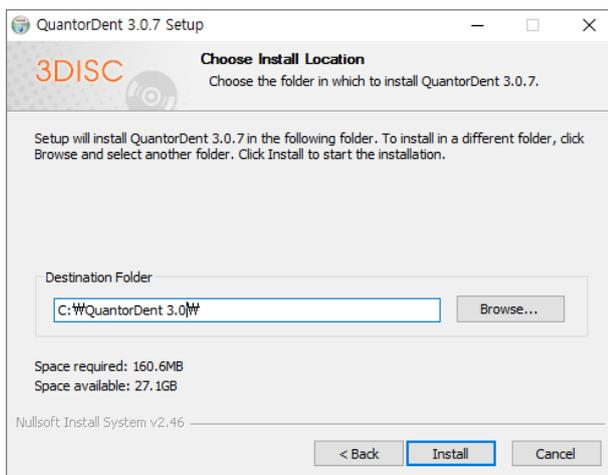

Figure 2.5 Installation Location Dialog Box
10. Choose the destination folder and click the “Install” button as shown in Figure 2.5.